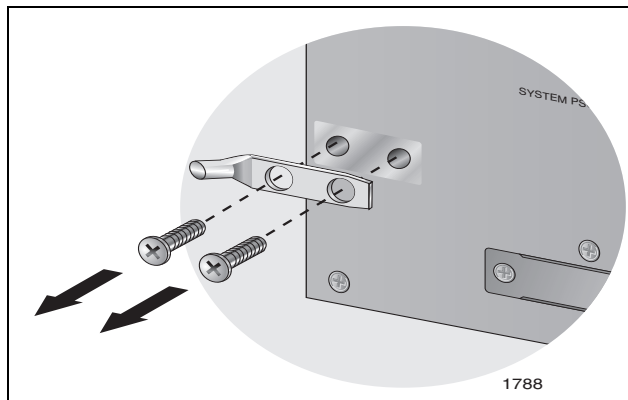

Figure 29. Removing Ground Lug Screws
3. Detach the ground lug that is attached to the chassis by removing the two screws on the rear of the chassis as displayed in Figure 29.